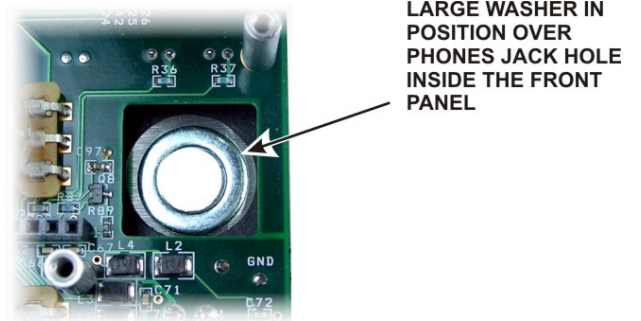

Figure 9. Phones Jack Washer.
A large, thick spacer washer should be lying on the front panel near the hole for the phones jack (see Figure 9). This spacer fits between the phones jack and the back of the front panel board to provide a solid mechanical ground connection when the boards are in place. Remove the washer and set it aside. If it's lying on the inside of the front panel you can tip the panel so it will slide out at the end.
- Position the large flat washer on the inside of the front panel over the PHONES jack hole (see Figure 9 on page 5). This is easily done by sliding the washer into place from the end of the front panel.
- Replace the knurled nut on the PHONES jack (see Figure 9 on page 5).